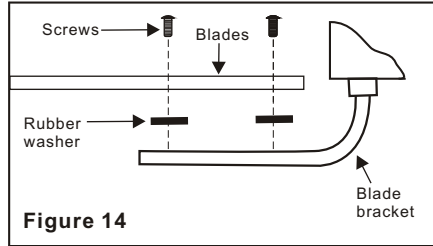

Figure 14
Step 1 Attach the blades to the blade brackets using the screws and rubber washers provided as shown in Figure 14. Start a screw into the bracket, but do not tighten. Repeat for the other 2 screws and washers.